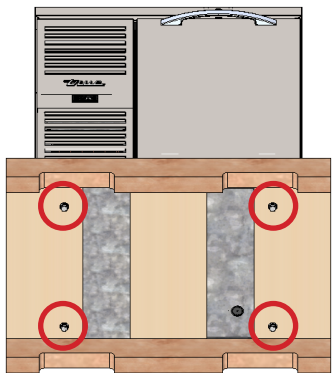

Fig. 4. Shipping bolt locations.
3. With an adjustable wrench, remove all shipping bolts securing the wood skid to the bottom of the cabinet. See fig. 4.